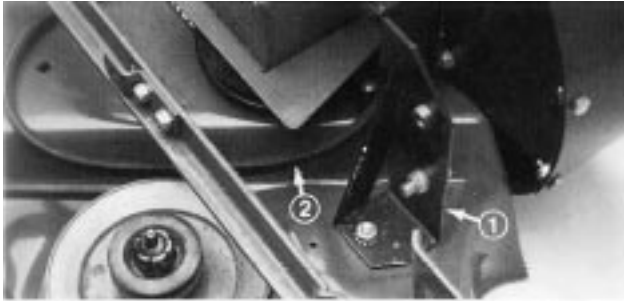

Figure 9
- 18.** Reposition blower and mounting brackets onto deck alining mounting holes. Route belt around blower pulley before securing to deck. Secure rear bracket and rear baffle to deck with (2) 5/16 x 5/8" (16 mm) carriage bolts and 5/16" lock nuts (Fig. 9).